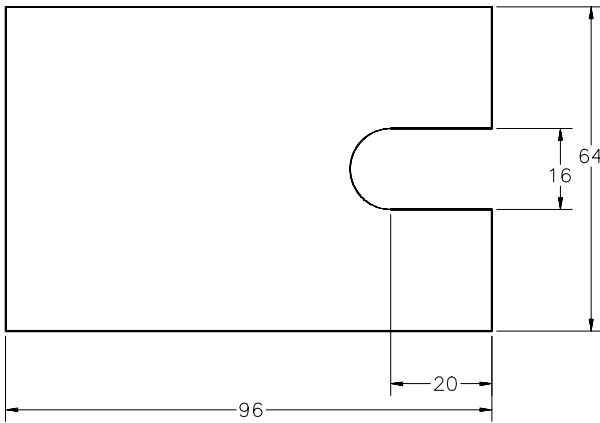

Figure 26-109 Base for the solid model
3. Switch on the ortho mode. Using lines and arc, create the base of the model with the dimensions shown in Figure 26-109. You can also use the **PLINE** command to create this sketch.